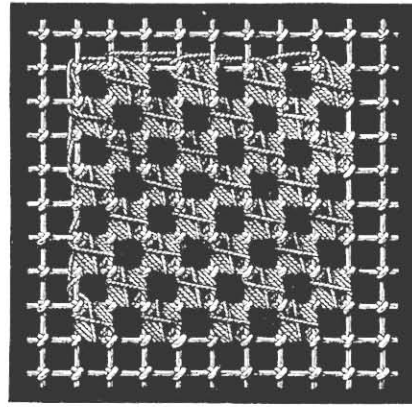

Fig. 51.
**Diagonal ground with cross stitches** (fig. 51). — For this pattern which has a good deal of analogy with the stitch